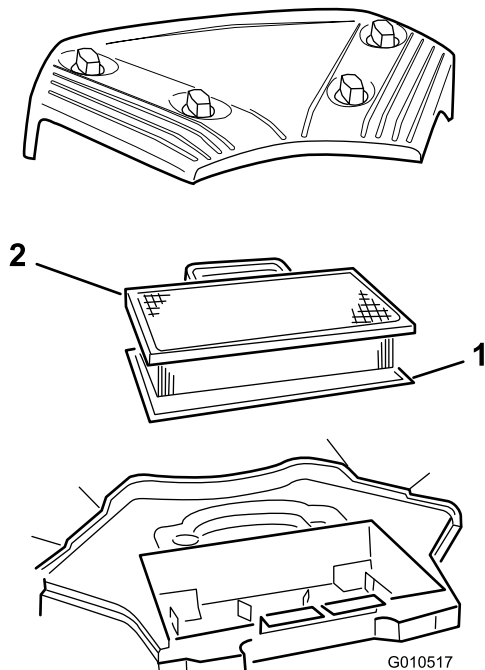

Figure 23
1. Knob (4)
3. Lift out the paper cartridge and the foam element (Figure 23)